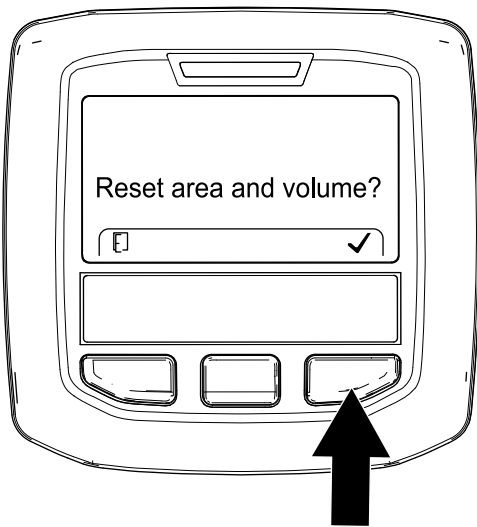

Figure 110
- In the RESET AREA AND VOLUME SCREEN, press the right InfoCenter button (Figure 110).